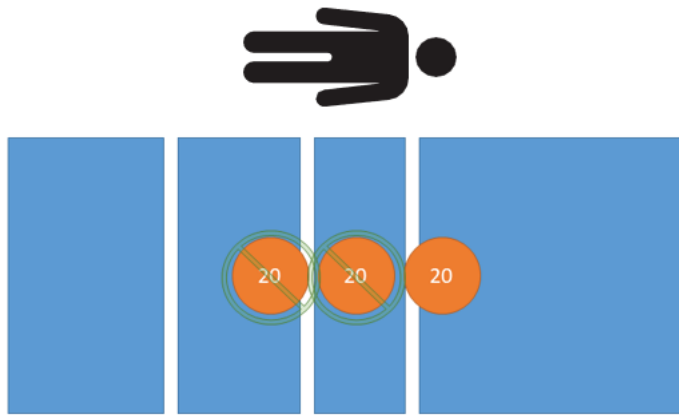

Figure 28 – Tare test - 20 kg net
3. Using calibrated weights, place 20 kg on the product (Figure 28).
11. Using calibrated weights, place 20 kg on the product (Figure 28).